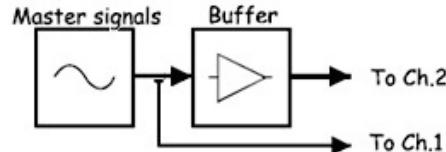

Figure 3: Master signal and buffer block.
- Locate the Buffer module and connect the setup in Figure 3. Calculate the buffer's gain mentioning the uncertainty in this measurement. [1 mark]